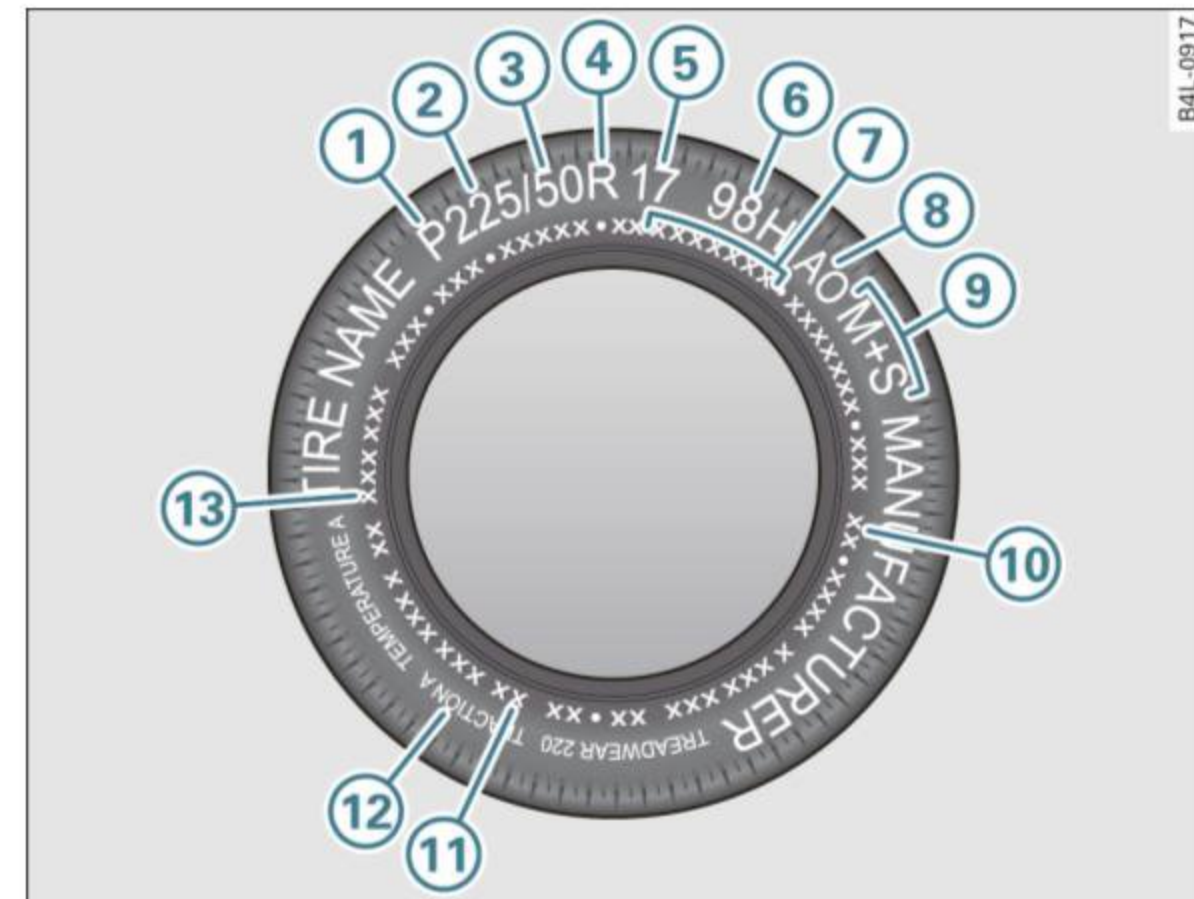

Fig. 175 Tire specification codes on the sidewall of a tire
- Check the tire sidewall (⇒ *page 257*, fig. 175) to determine the designated load rating for a specific tire. ■
Federal law requires tire manufacturers to place standardized information on the sidewall of all tires ⇒ *page 257*, fig. 175. This information identifies and describes the fundamental characteristics, the quality grade of the tire and also provides a tire identification number for safety standard certification and in case of a recall.
Quality grades can be found where applicable on the tire side wall between tread shoulder and maximum section width ⇒ *page 257*, fig. 175.